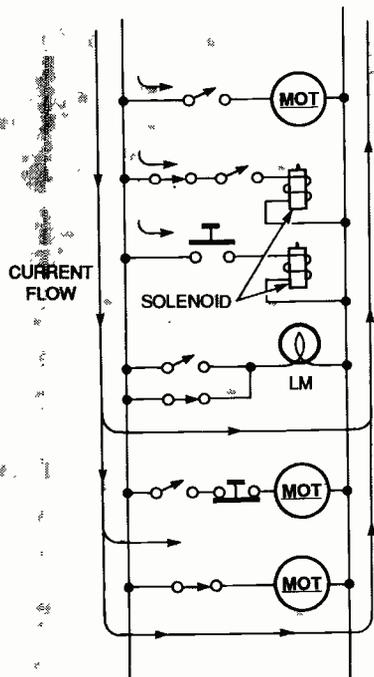
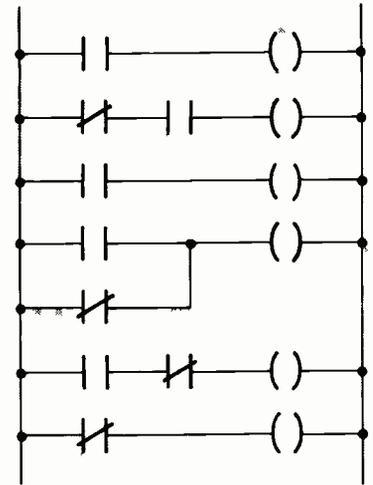

FIG. 4—CONVENTIONAL ELECTRONIC DIAGRAM of a ladder-logic diagram.
FIG. 5—LADDER LOGIC DIAGRAM representation of Figure 4.
clip, and then install the completed PC board and rotary switch as shown in Fig. 5. Finish the job by wiring the input and output binding posts, power switch, and battery snap.
70 FIG. 5—ASSEMBLED CIRCUIT BOARD is mounted in its case.
tation of process control has evolved. It is called a ladder logic diagram and is named for its resemblance to a ladder. It was derived from its predecessor diagram, called a relay logic diagram. Figure 4 is a typical relay logic diagram. If you follow the ladder from the top down (the normal direction of control flow), you can see how the various switches and relay contacts are evaluated (are they closed?). At the same time the corresponding controlled items, such as motors (M), lights (L), or solenoids (S), are commanded accordingly.
The PLC relay logic diagram (Fig. 4) translates into the PLC ladder logic diagram of Fig. 5. In both diagrams, the left-hand elements correspond to electrical contacts or switches. Normally closed switches, such as limit switches, are converted to parallel lines with a slash through them. Also, the rightmost elements in both illustrations represent the controlled items. When looking at the diagrams, you can see a series of sequential events occurring. It starts at the top left of the ladder. If the first ladder-rung switch on the left is closed, the motor starts. If not, the motor remains idle and you go on to the next rung down. When the system is operating, the PLC checks through the entire ladder from top to bottom. When it is done it simply starts all over again until it gets a stop-process command.